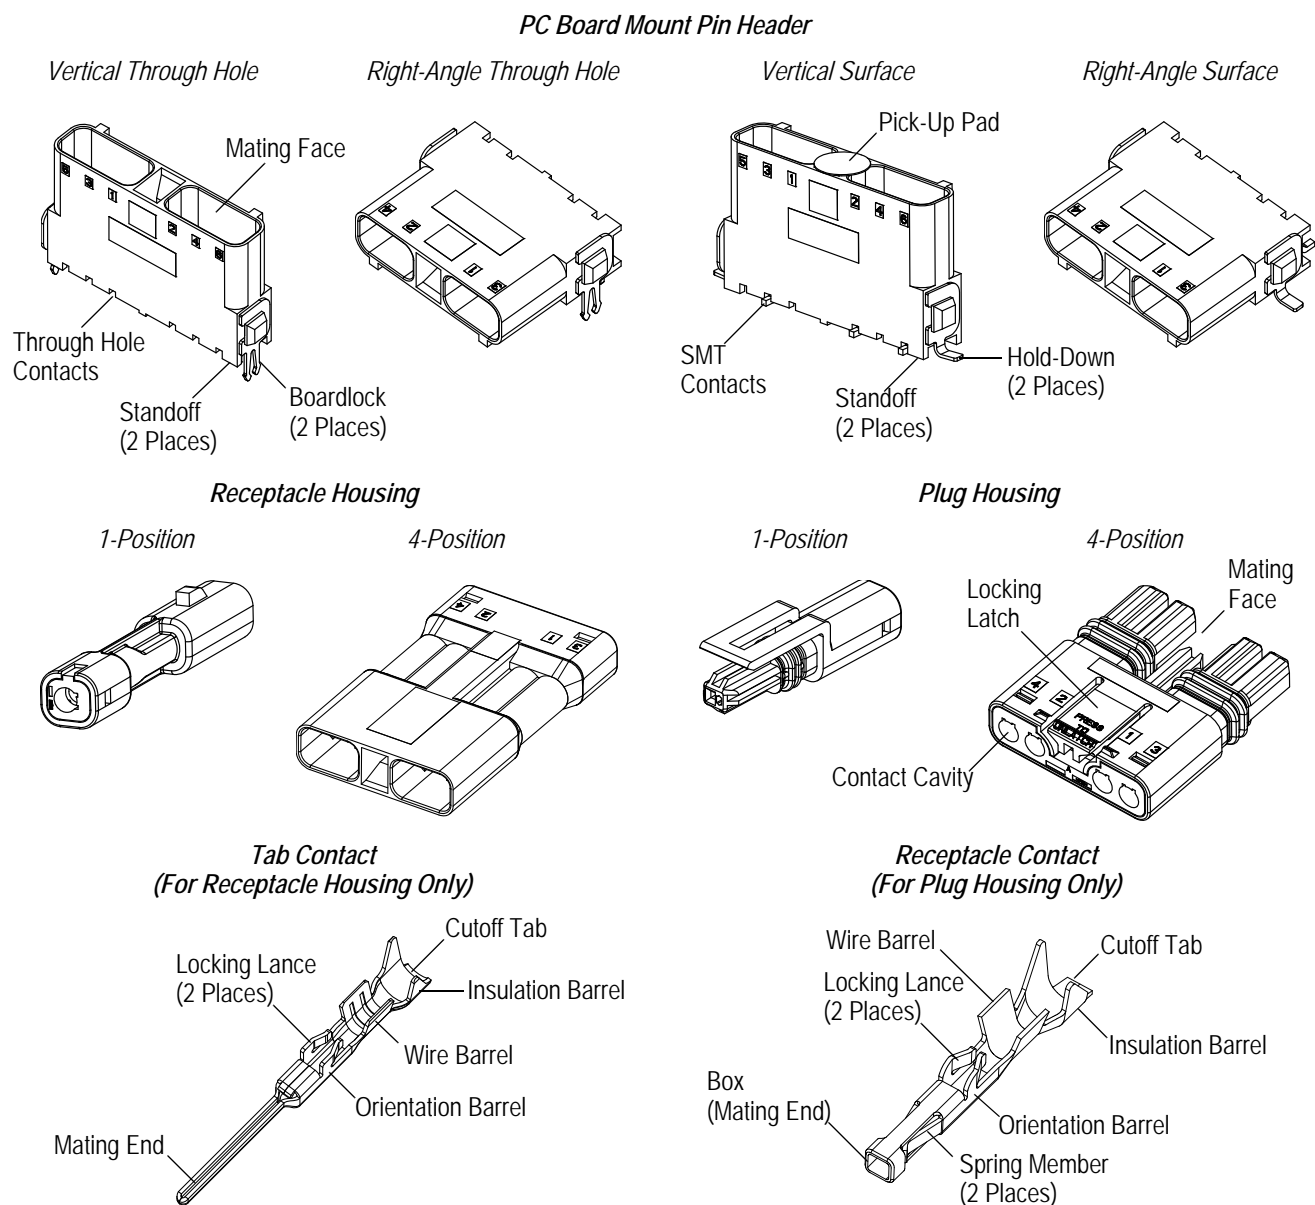

Figure 1
When corresponding with personnel, use the terminology provided in this specification to facilitate your inquiries for information. Basic terms and features of this product are provided in Figure 1.
- Switched contact illustrations in Figure 1 to show that receptacle housing accepts tab contact and plug housing accepts receptacle contact